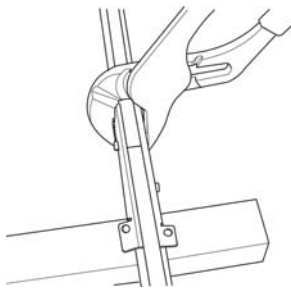

Figure 5
2. Insert a Rail Joiner on each side of the rail; then press the Rail Joiners together. While holding the Rail Joiners together, use a screwdriver to push in the tabs on the Rail Joiners. Perform this procedure on both sides of the track. After the rails have been secured with the Rail Joiners, insert ties and secure the Rail Joiners to the ties. Refer to Figures 5, 6, & 7.